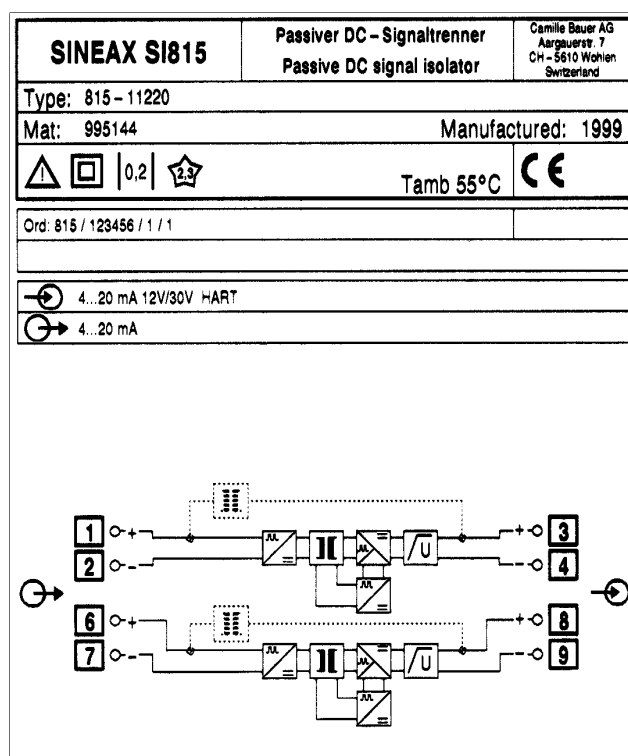

Fig. 8. Example of a nameplate.
- ... the required electrical insulation and transmission data agree with the data on the nameplate of the SINEAX SI 815-1 (→ input signals and → output signals, see Fig. 8)!